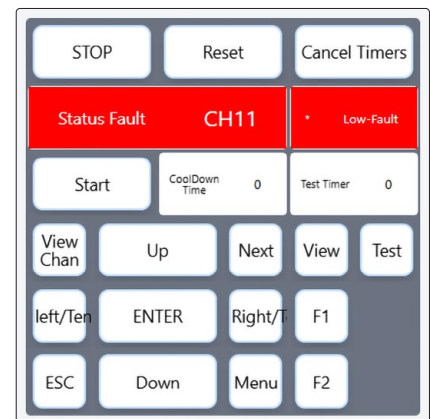

Figure 15
- c. Red = Fault. **NOTE:** When editing your dashboard blocks, it is recommended to begin any custom channel labels with the channel number; the channel number that the fault occurred on will display. See *Figure 15*.
5. **Fault High/Low:** When the status is fault, “High” or “Low” displays in the field to the right of the Status Fault. See *Figure 15*.